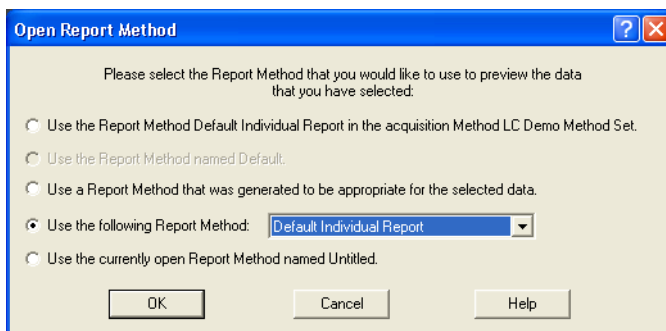

Figure 7-6 Open Report Method Dialog Box
2. Select the result that you want to preview, then click the **Tools > Preview**. The Open Report Method dialog box appears (Figure 7-6)